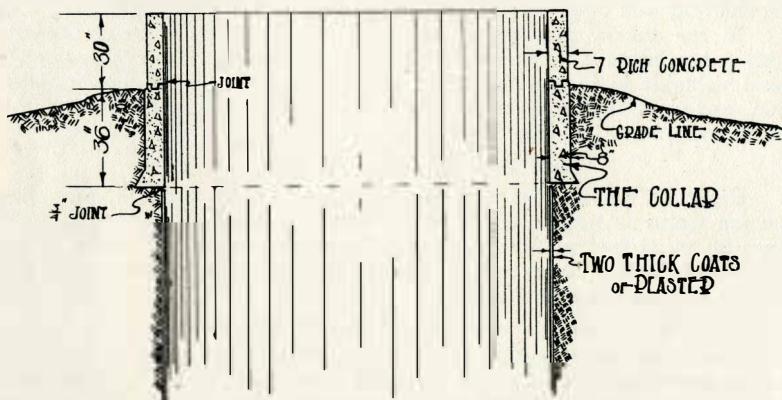

Fig.5.—A CONCRETE COLLAR FOR THE PIT SILO
3. Dig a smooth trench, 3 feet deep and pour the collar to the surface of the ground, leaving it grooved (see Figure 5).
four inches wider than intended, before they are finished. The bottom of the trench should spread to the outside as shown in Fig. 5 to give more bearing surface. When the inside of the trench has been given a final smoothing up, it is wet down and then the concrete may be poured.
The sand and pebbles in the gravel used should be clean and hard. The sand should not be too fine and no pebble larger than two inches in diameter should be used. The ordinary equipment for concrete work should be at hand and if a small concrete mixer is available, it will save quite a bit of time and labor. If the collar is widened at the bottom about as shown in Fig. 5, it will take just three cubic yards of concrete to pour the lower section. It is best to screen the sand from the pebbles and mix them back together with the cement by reasonably careful measurement. The proportion should be one part of cement, two and one-half parts of sand, and four parts of pebbles or crushed rock (1-2½-4). This is equivalent to a pit-run mixture of 1 to 3½. The concrete should be tamped in the trench as it is poured, with a little "spading" on the inside of the trench to make the wall smooth as possible. Wooden blocks can be imbedded at the top of this lower section of the collar so that a groove will be left when the blocks are knocked out. Some reinforcing rods could also be imbedded in this section if desired, and left sticking up in order to bond the two sections together when the top section is poured.
The following material would be required for a pit silo 12 feet in diameter and 25 feet deep, with the collar and plaster as shown in Fig. 5 on page 9.